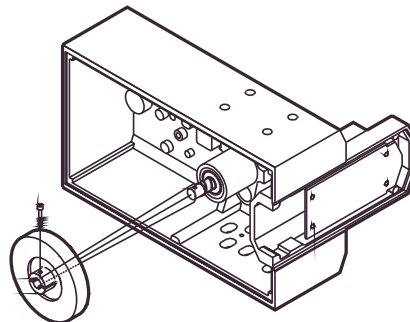

Figure 2.4 Flywheel mounting
10. Remove the shipping collar using the supplied hex wrench, and install the Digital Soundhead flywheel. Reach around and hold the sound drum to prevent the shaft from sliding out and hitting the LED bracket. The flywheel is packed separately for shipping (see **Figure 2.4**). Take care not to lose the spring on the shaft.